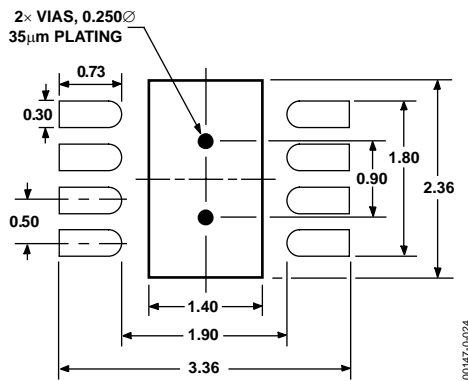

Figure 25. 3 mm \times 3 mm LFCSP Pad Pattern
1. The pad pattern is given in Figure 25. The pad dimension should be followed closely for reliable solder joints, while maintaining reasonable clearances to prevent solder bridging.
2. The thermal pad of the LFCSP package provides a low thermal impedance path (approximately $20^{\circ}\text{C}/\text{W}$) to the PCB. Therefore, the PCB must be properly designed to effectively conduct heat away from the package. This is achieved by adding thermal vias to the PCB, which provide a thermal path to the inner or bottom layers. See Figure 25 for the recommended via pattern. Note that the via diameter is small to prevent the solder from flowing through the via and leaving voids in the thermal pad solder joint.